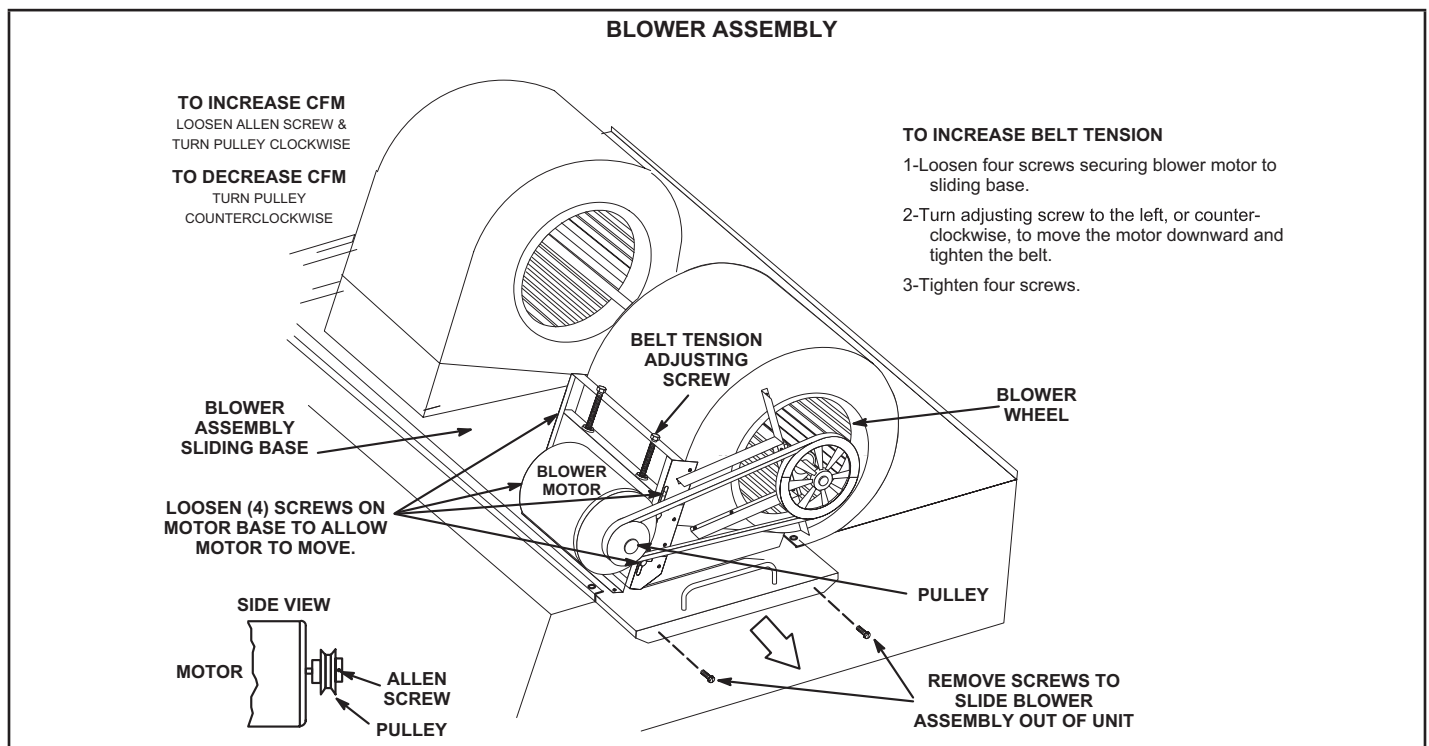

FIGURE 9
The blower compartment in KGC180S-300S units is located between the evaporator coil and the compressor / control section on the opposite side of the condenser coil. The blower assembly is accessed by removing the screws on either side of the sliding base. The base pulls out as shown in figure 9.
The blower assembly is secured to a sliding base which allows the entire assembly to be pulled out of the unit. See figure 9.
- 5 - The RPM can be adjusted at the motor pulley. Loosen Allen screw and turn adjustable pulley clockwise to increase RPM. Turn counterclockwise to decrease RPM. See figure 9.
- 1 - Loosen four bolts securing motor base to mounting frame. See figure 9.